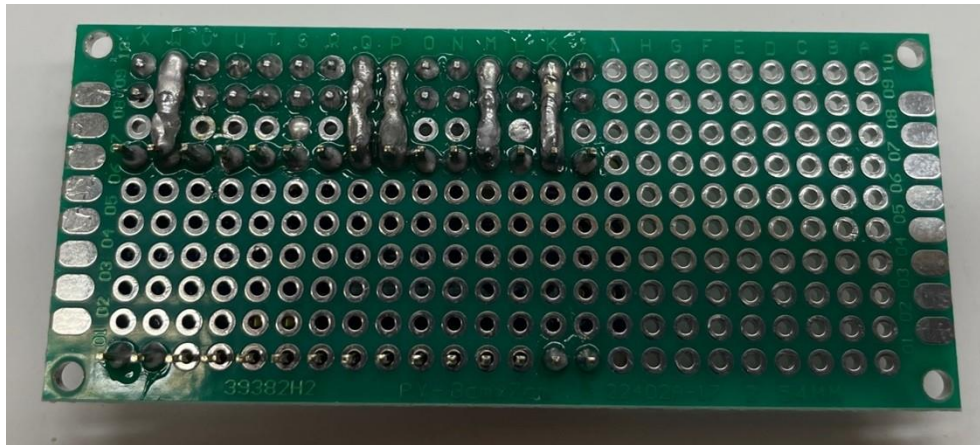

Figure 2.11 - Reverse side of board and pins
- 8) Solder the ground pin, 5V pin, 3V pin, A4 pin and A5 pin across to their corresponding headers as shown in Figure 2.11.